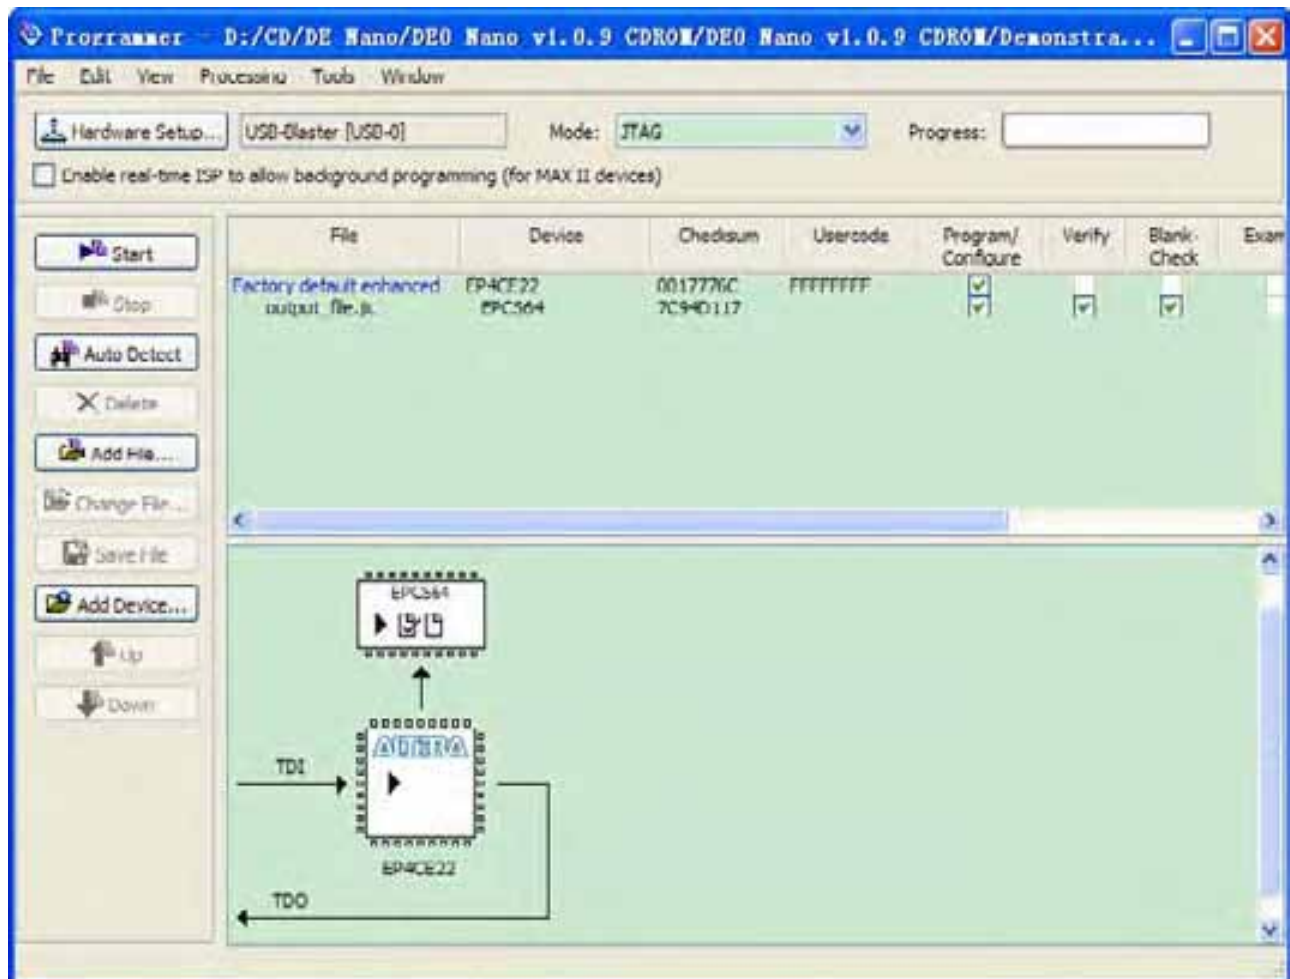

Figure 9-6 Quartus II programmer window with one JIC file
2. Program the serial configuration device by checking the corresponding **Program/Configure** box, a Factory default SFL image will be load (See **Figure 9-6**).